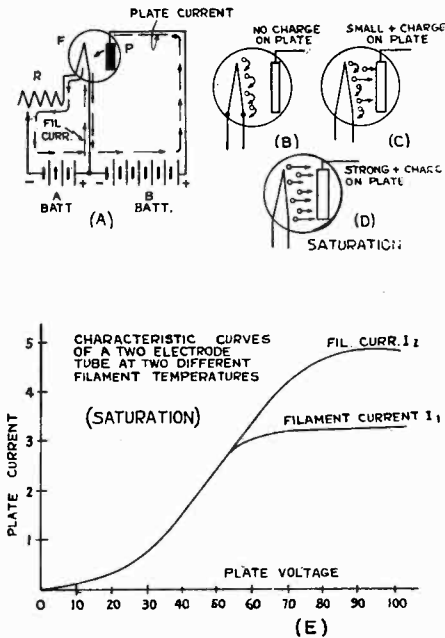

Figure 37: Illustrating the saturation effect in a tube.
59. TWO-ELECTRODE VACUUM TUBE: In 1890 Dr. J. A. Fleming made practical use of the Edison effect in his two-electrode vacuum tube, Fig. 37-A. F is a metal filament heated to incandescence by a source of current A, the current being controlled by a resistance R. B is a battery (source of potential) connected between the plate P and the filament. It serves to maintain the plate electrically positive with respect to the filament. Both
The action is shown by the graphs of Fig. 37-E, where the plate potentials are laid out along the horizontal axis and the plate currents along the vertical axis. It will be seen that, for any fixed filament current or temperature, as the plate potential is increased the plate current rises up to the saturation point, where the curve bends over and becomes horizontal. It is evident that in order to obtain at the plate all of the emitted electrons, a certain minimum voltage must be impressed on the plate; increasing it beyond this does not result in any gain.